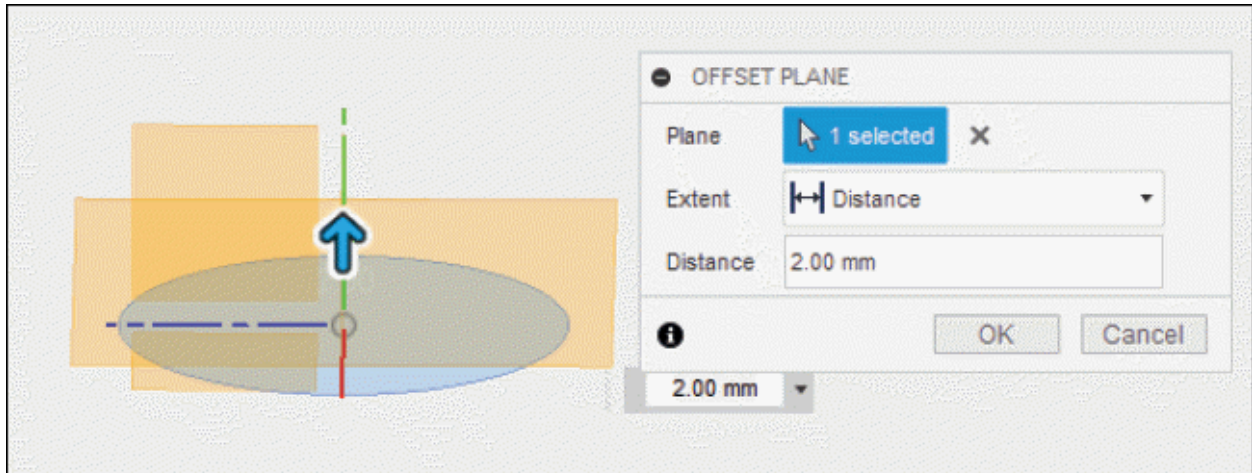

Figure-73. Creating first offset plane
- Click in the **Distance** edit box and enter the value as **2**; refer to Figure-73.